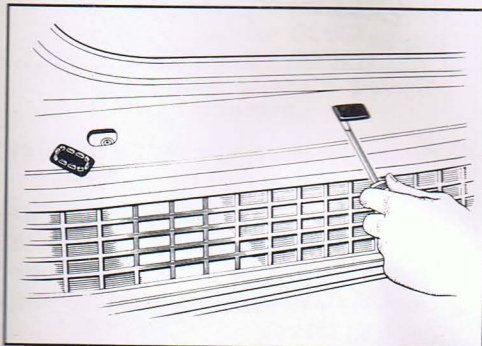

Figure 1 - Removing screw caps
2. Remove the black caps from the body panel above the lens fixture with a suitable flat tool. See Figure 1.